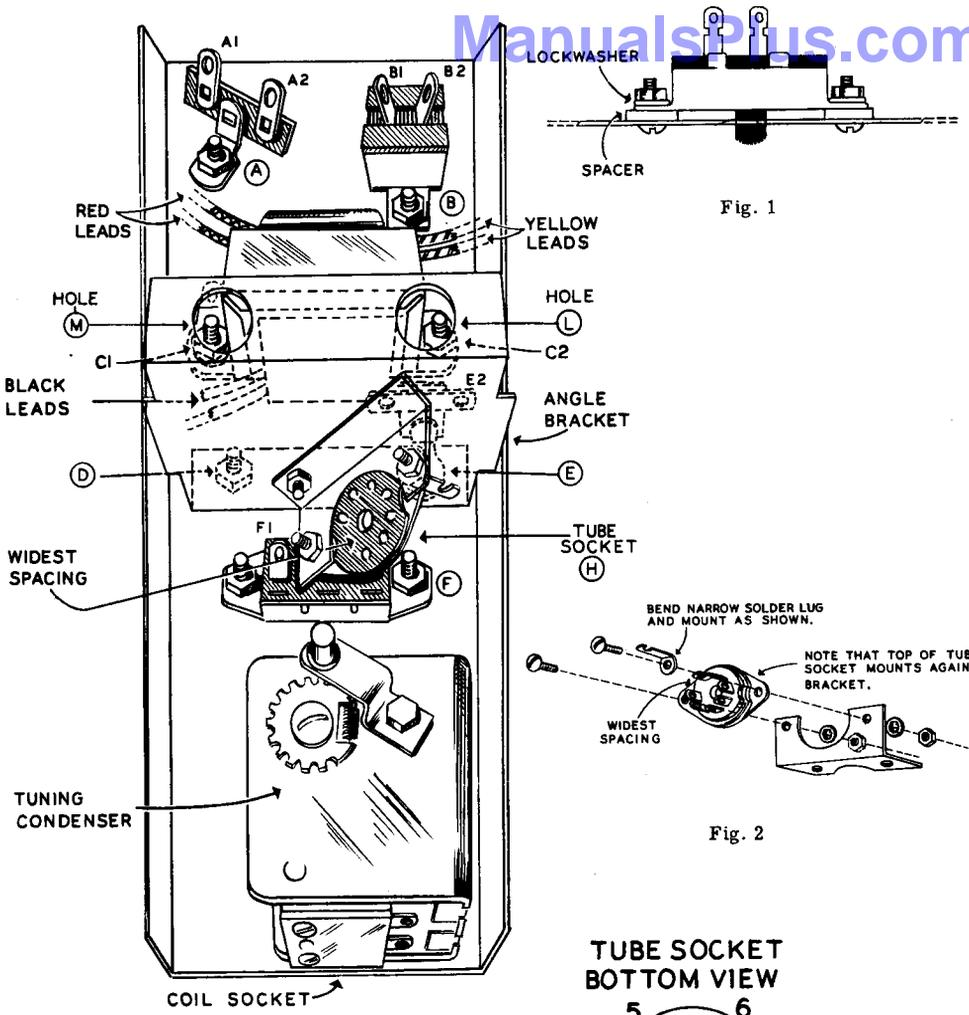

Fig. 1
- () Mount the DIODE-OSC. switch in location F by means of two 6-32 screws, fiber washers, lockwashers, and nuts. Figure 1 shows how the washers are mounted between the bottom plate and the switch frame. Be sure the switch mounting is not reversed. Pictorial 2 clearly shows the mounting of this switch.